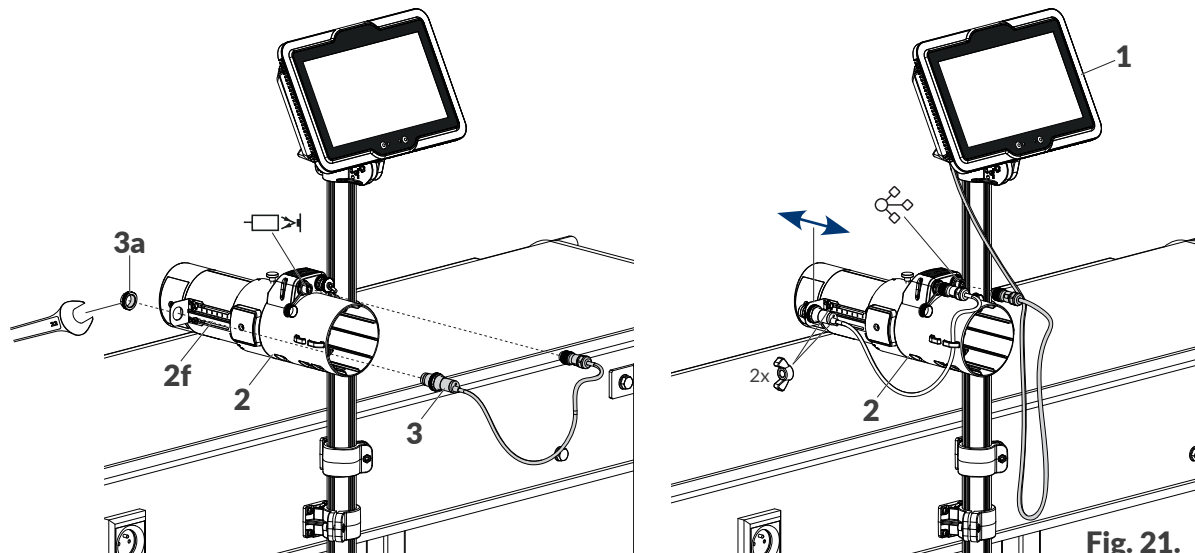

Fig. 21.
8. Install photodetector **3** in holder **2f** (see Fig. 21). Retaining nut **3a** can be sufficiently tightened with fingers. Use a #22 open ended spanner, if need be. Connect photodetector **3** to integrated print-head **2**.